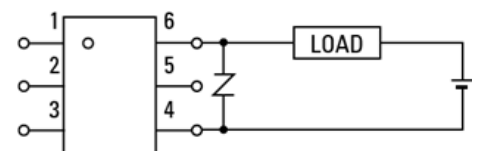

Fig. 5.1.3 Example of varistor selection and circuit using varistor
- For use with commercial AC power supply: See Fig. 5.1.3.